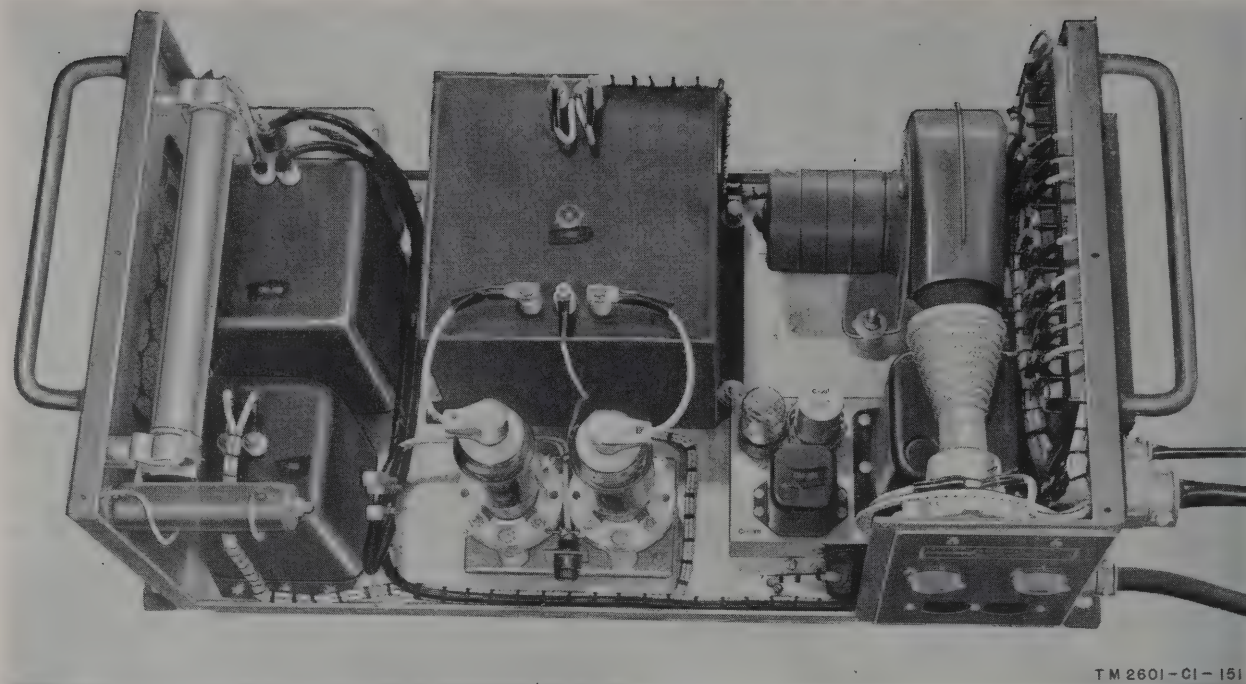

Figure 38. Late model of Power Supply PP-13D/TRA-1, top view of chassis.
e. There are two types of Power Supply PP-13D/TRA-1. Figure 38 illustrates a late model.
(1) Early models of Power Supply PP-13D/TRA-1 (serial numbers 1 through 17) were the same as the C model except for a slightly larger front door which made it possible to remove the rectifier tubes without removing the top cover plate of the power supply.
(2) Late models of Power Supply PP-13D/TRA-1 (serial numbers 18 and above) use two type 3B28 tubes in place of the 866A/866 type. The 3B28 type tubes are half-wave rectifiers that are gas-filled and do not require preheating. Thus, in late D models of the power supply, tube heaters H301 and H302 and thermostats TD303 and TD304 are eliminated. Otherwise, the late models of Power Supply PP-13D/TRA-1 (fig. 38) are the same as the C